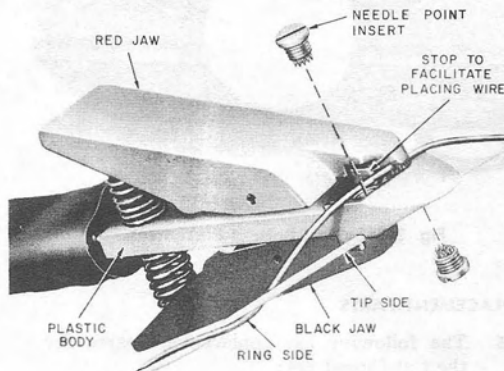

Fig. 2 — Cable Clip
2.02 Two double-conductor cords are mounted on the front panel. Each cord is equipped with a special cable clip intended to be attached to the respective new and old cable pairs (Fig. 2).